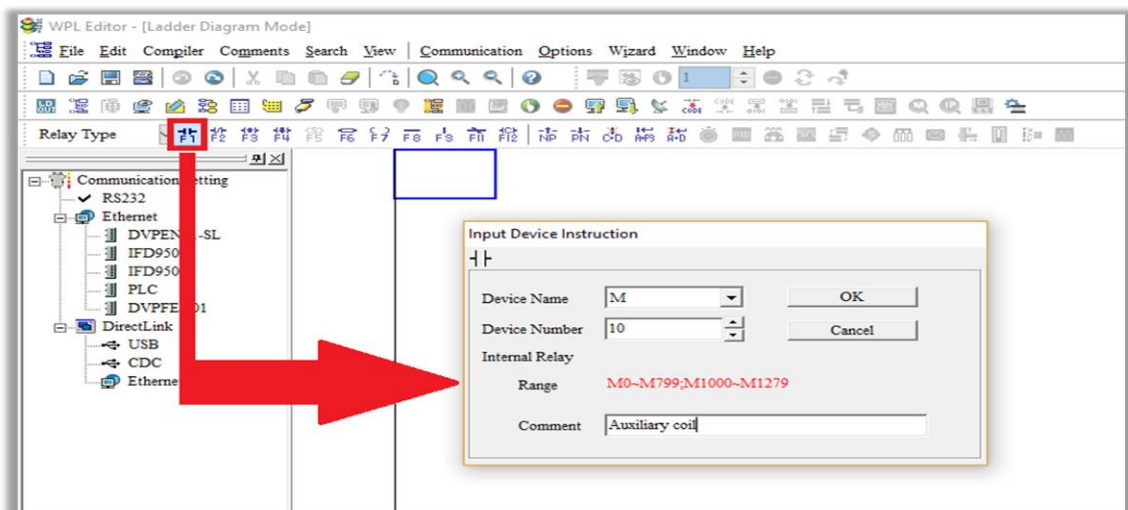

Figure 15-12
Step 2. Click  **Normally Open Contact** button or press function key F1. **Input Device Instruction** window appears. Select **Device Name** (e.g. M), **Device Number** (e.g. 10), and type **Comment** (e.g. Auxiliary coil). Then, click **OK** to finish settings, as Figure 15-12, 15-13 shows.